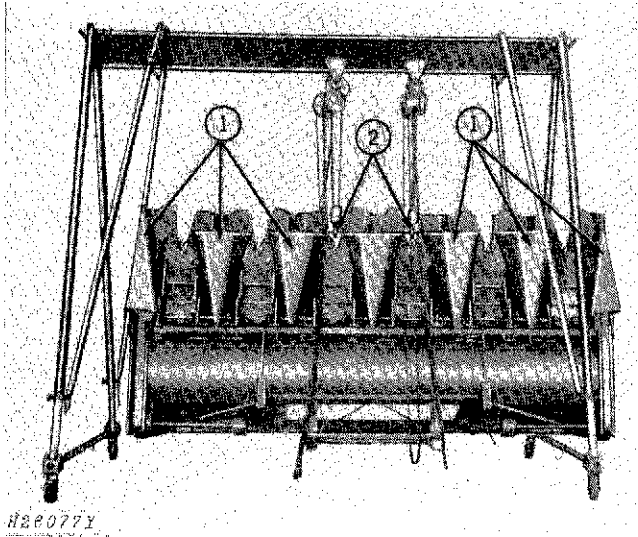

Fig. 101-Attaching Hoist to Row-Crop Head
1. After the row-crop head has been moved to the assembly area, remove gatherer points and drive couplers. Cut all shipping wires and place parts out of the way for later assembly (Fig. 101).
2. With the aid of an overhead hoist, attach lift hooks to the shipping channels. Raise row-crop head just high enough so skid uprights and clamps can be removed (Fig. 101).